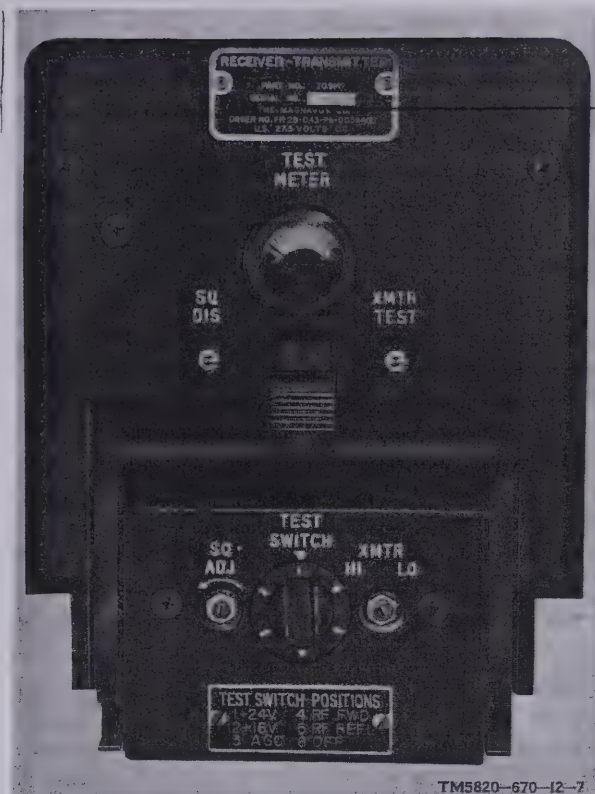

Figure 3-1. Receiver-transmitter front panel controls and indicator.
b. Organizational Maintenance Controls and Indicators. In addition to the operator's controls, the following controls and indicators on the receiver-transmitter (fig. 3-1) are used by ~~the organizational~~ repairman.
(fig. 3-1)